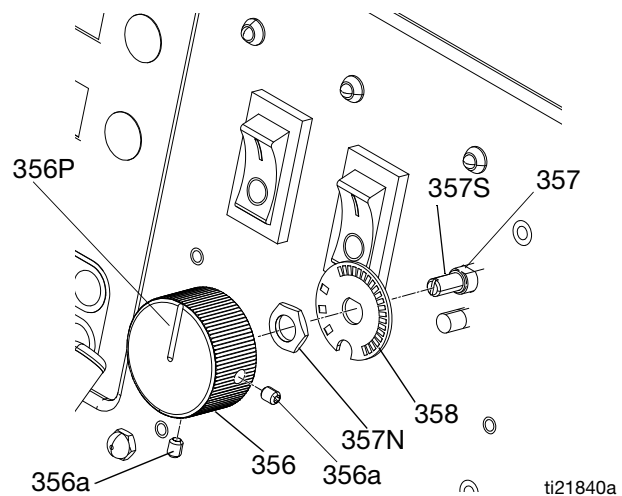

FIG. 9 Function Knob/Potentiometer
4. See FIG. 9. Remove two setscrews (356a) and pull the function knob (356) off of the potentiometer (357) shaft.
5. Remove the nut (357N) and the detent plate (358).
6. Install the new potentiometer (357) in reverse order. Position the potentiometer so the slot (357S) is horizontal. Position the knob (356) so the pointer (356P) faces up. Install the knob on the shaft so the slot (357S) engages the alignment pin in the knob. Push the knob onto the shaft against the detent spring before tightening the setscrews (356a).